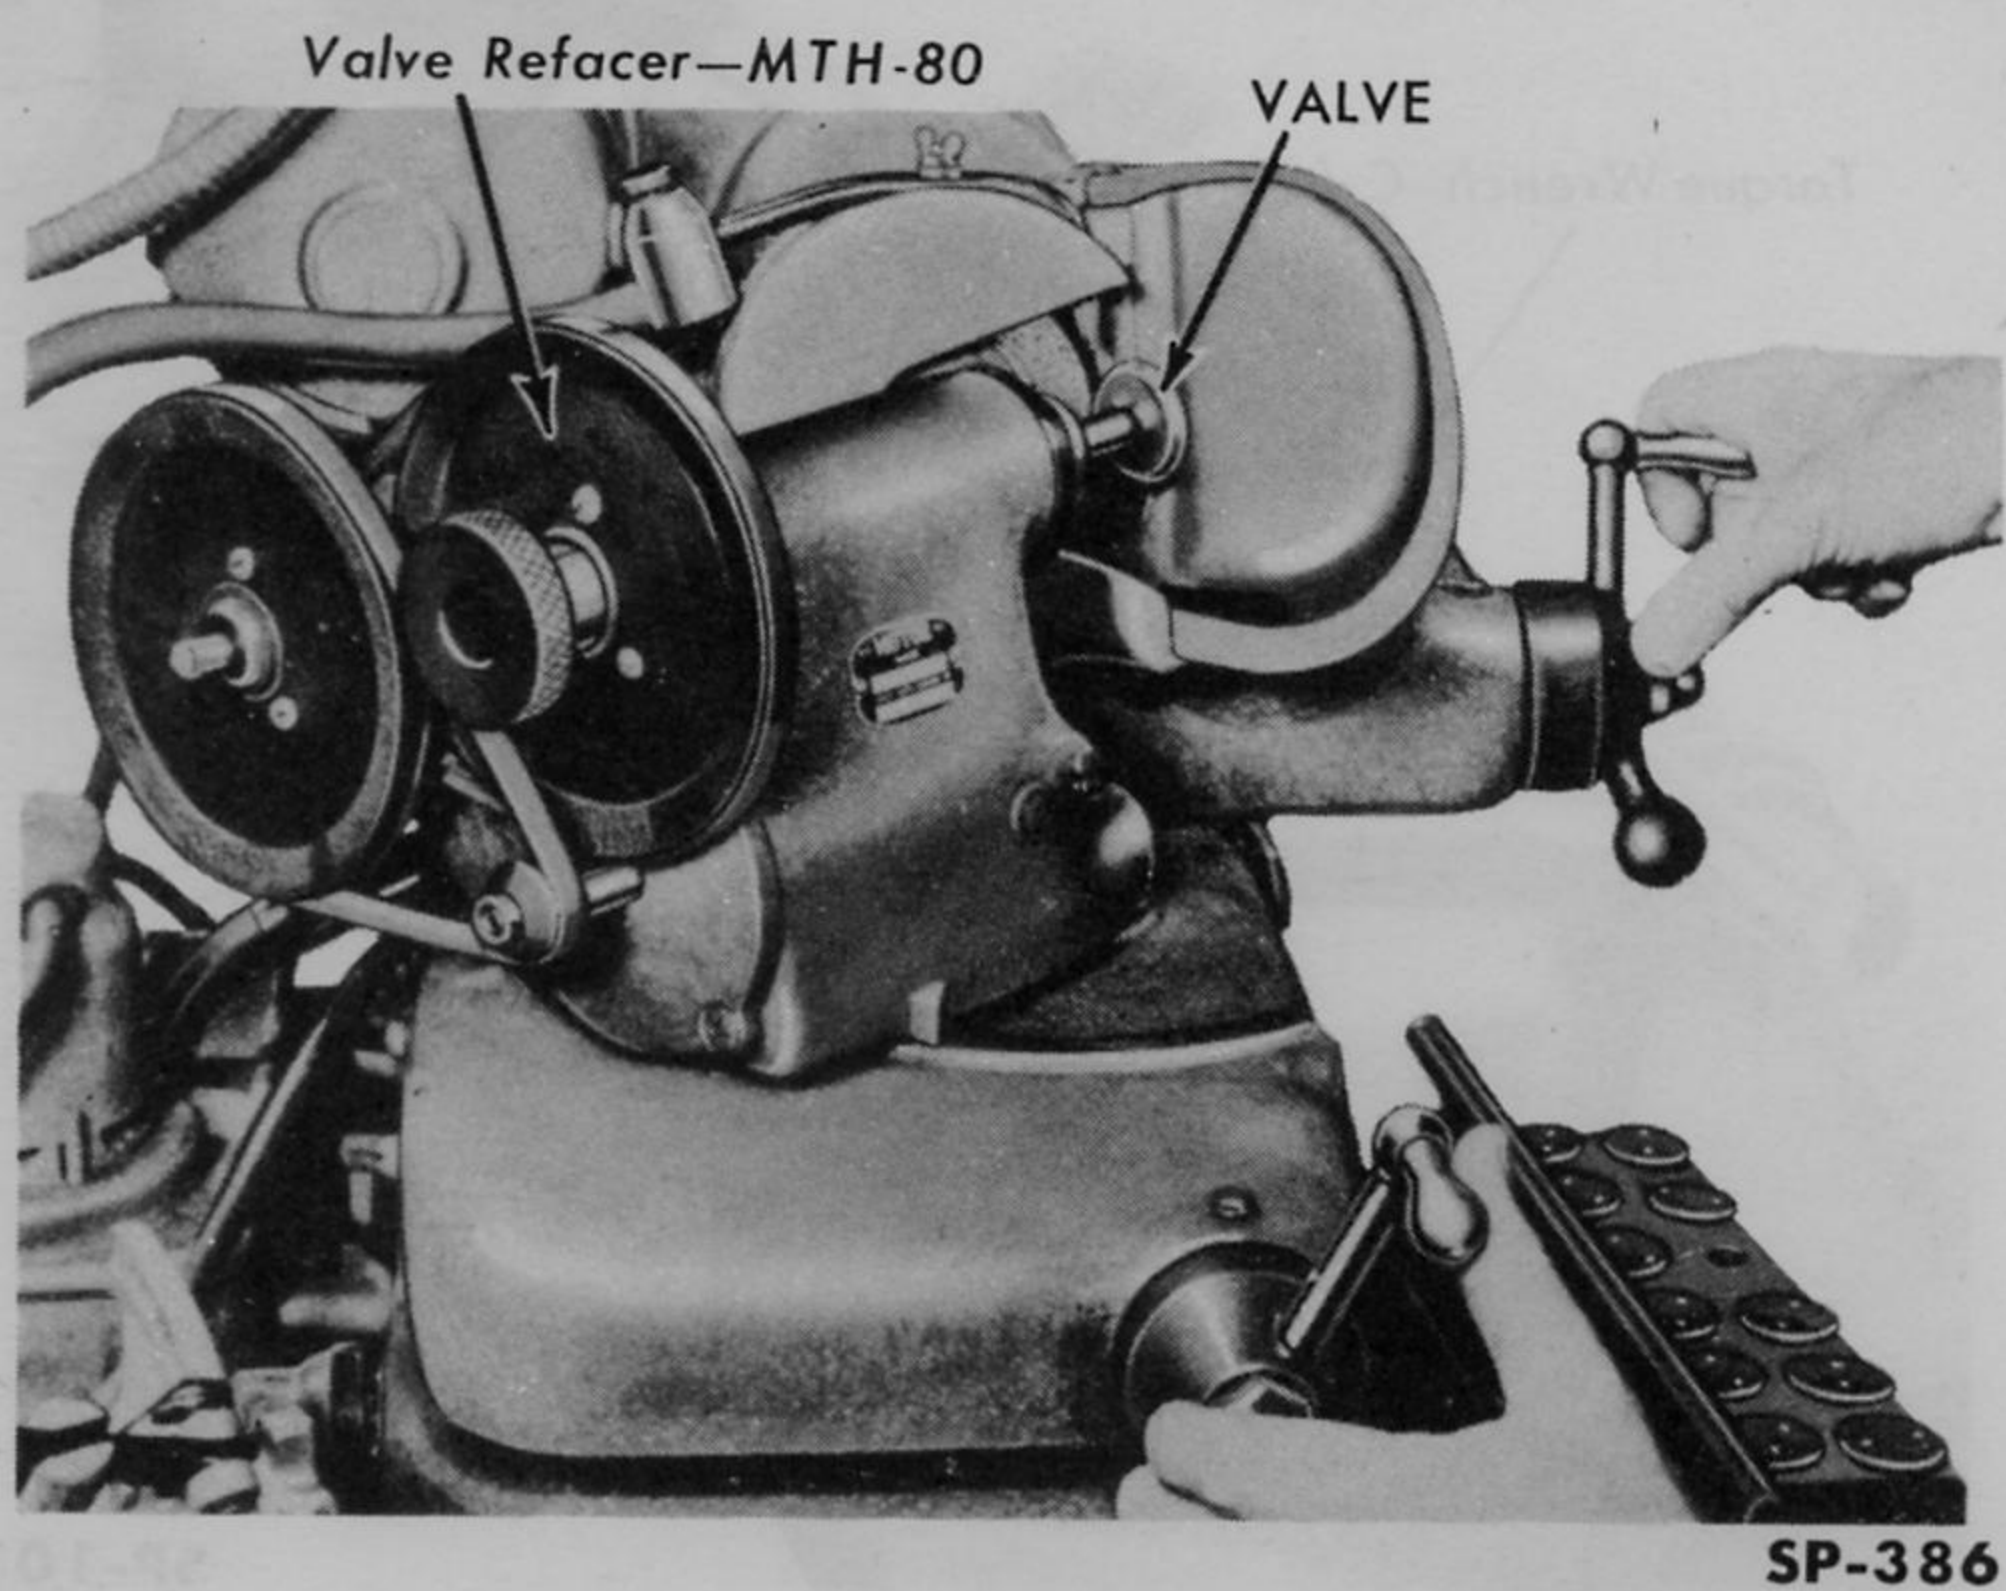

Fig. 68—Refacing Valves
2. Refacing Valves. Refacing the valves may be accomplished with Valve Refacer MTH-80, or equivalent precision equipment (Fig. 68). The manufacturer's instructions should be followed when using the refacing equipment.